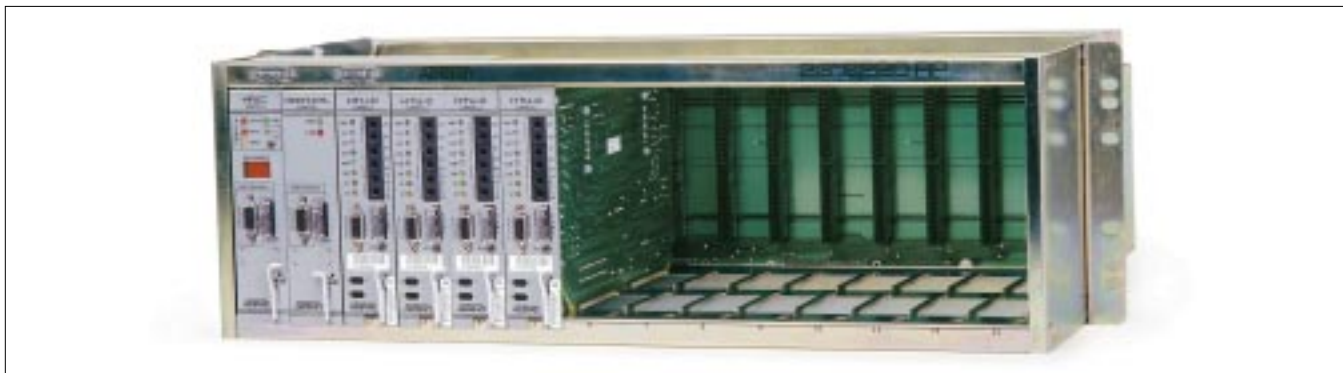

Figure 1. E220 RP 23" HDSL System Shelf
This practice is an installation and maintenance guide for the ADTRAN E220 Redundant Power (RP) 23" HDSL System Shelf. Figure 1 is an illustration of the shelf.